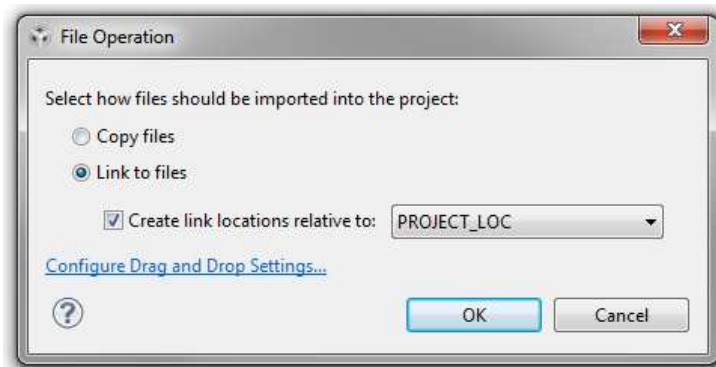

Figure 16. Selecting the Proper Options to Link the Source Files Into the Project
3. Select the *Link to files* radio button, check the *Create link locations relative to:* checkbox, and select PROJECT_LOC from the drop-down menu when the File Operation dialog box appears (see Figure 16). Press **OK** to add the source file(s) to the project.